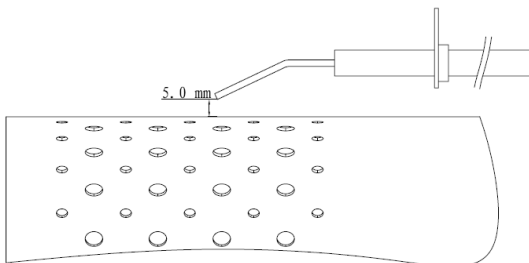

Figure 5
- 5.2 . Check the position of the starting electrode (see Fig.5).